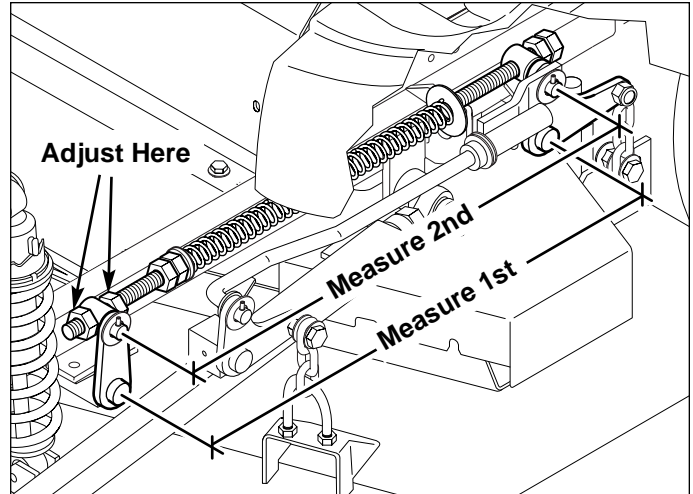

Figure 31. Spring Rod Adjustment
5. See Figure 31. Measure the distance between the lift pivots and the spring rod pivots. Adjust the 5/8" hex nuts on either side of the front spring rod pivot until the measurements are equal.